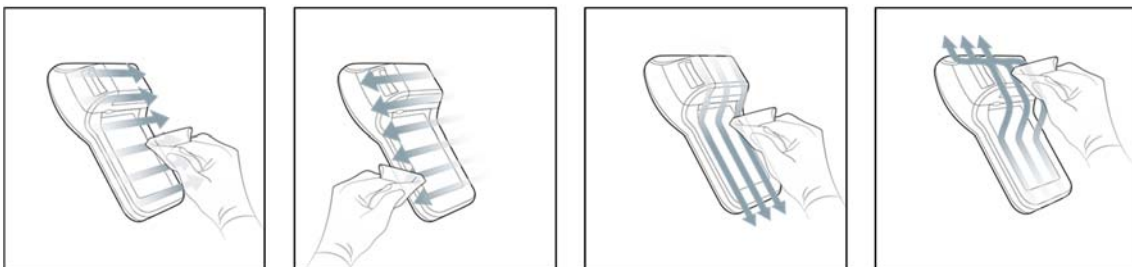

Figure 8. Wipe the meter front and meter screen respectively.
5. Follow the Figure 8 to wipe the meter front and meter screen respectively.